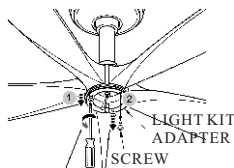

FIG. 15
3. Remove 1 of 3 screws on light kit adapter and loosen the other 2 screws.(see fig.15)